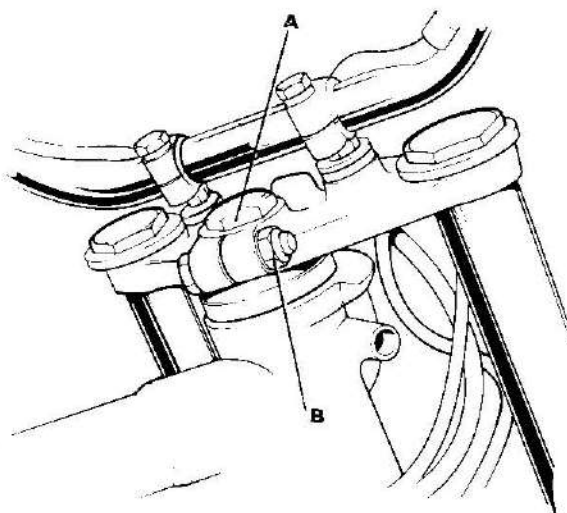

Fig. GG1. Steering head adjustment
To adjust the steering head assembly, slacken the clamp nut B, Fig. GG1 and the top yoke adjuster nut A then tighten down the adjuster nut until adjustment is correct. There should be no play evident in
Slacken the top lug pinch bolt (A) fig. GG1 and remove adjuster nut (B). Loosen both the top and middle lug stanchion pinch bolts with an allen key. Slide fork leg and stanchion from the machine.